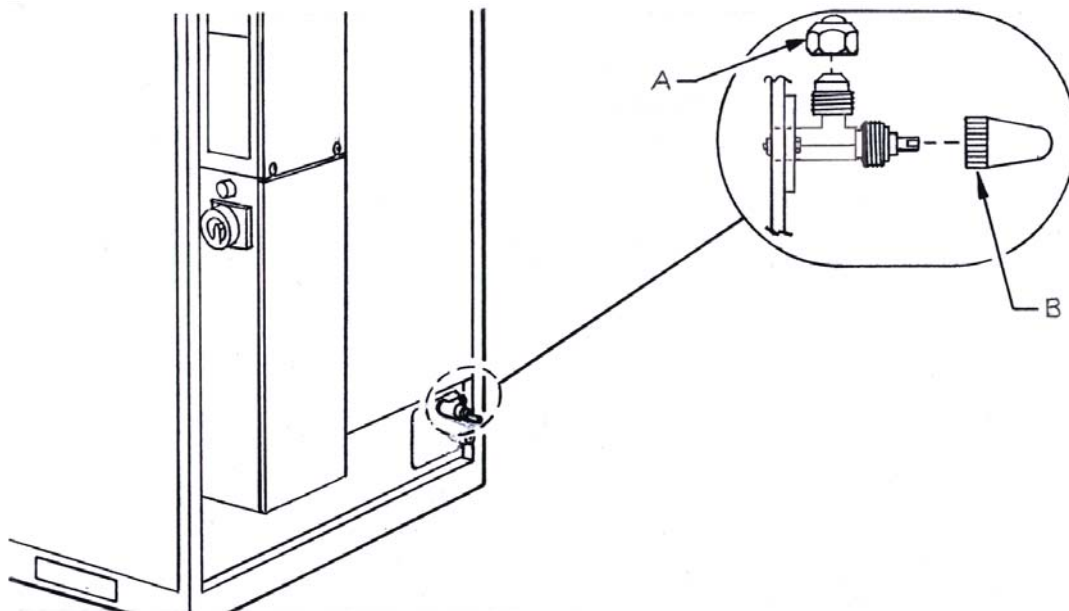

Figure 4-9: Evacuation Valve Closure
3. Reinstall the protective cap and the flare nut with bonnet onto the EVACUATION VALVE. (See Figure 4-9.)